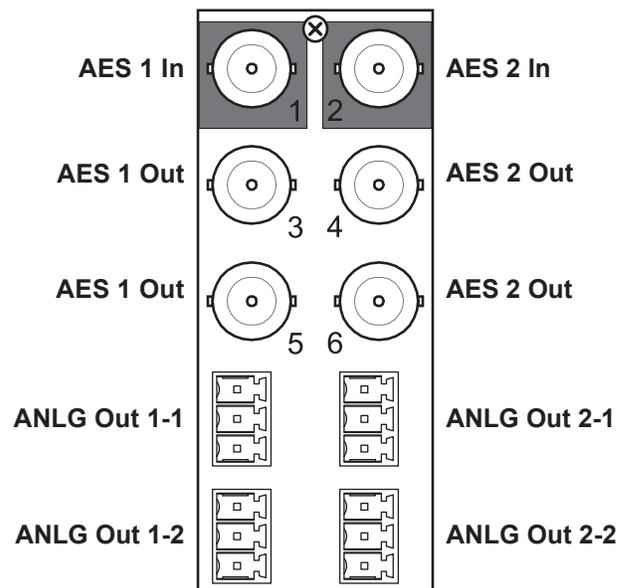

Figure 6 Cabling for the 8320AR-036A
- 8320AR-036A — Each module occupies two slots and accommodates one card. This rear module provides two AES inputs, four AES outputs, and two stereo pair outputs. Refer to **Figure 6**.